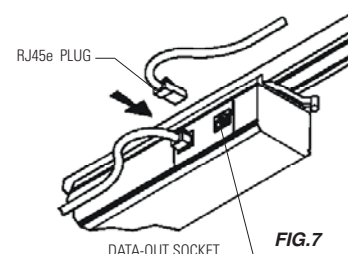

FIG.7
2. For daisy chain data connection, connect data cable CAT5 into data-in socket of the first luminaire, then connect the data cable to the data-out connector jack of the next luminaire and so on. (Fig.7)